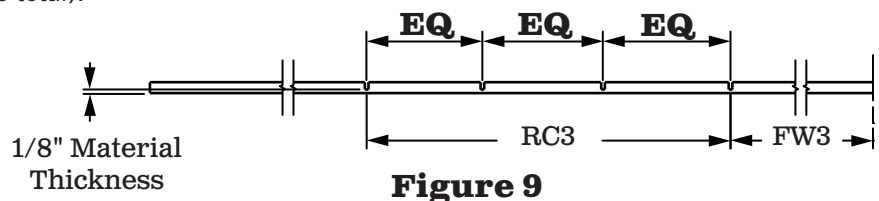

Figure 9
- 7) See **Figure 9**. Measure from center mark on liner and mark "FW3" front and rear. Snap chalk lines on both sides of center line.
- 8) See **Figure 9**. Measure from "FW3" mark on liner and mark "RC3" front and rear. Snap chalk lines on both sides of center line (4 scores total).
- 9) See **Figure 9**. From "FW3" measure 3 equal spaces and make 2 marks front and rear. Snap chalk lines on both sides of center line (8 scores total).